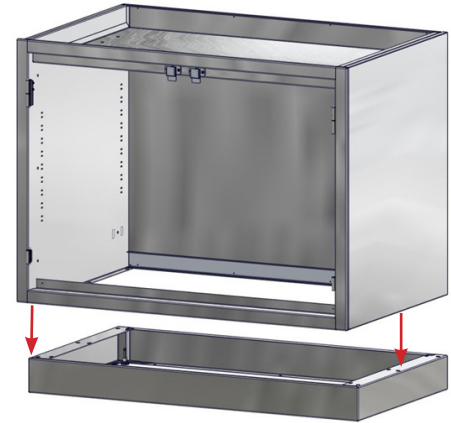

Fig. 13: Mount Cabinet to Base
5. Place the cabinet carefully on the base (Fig. 13).